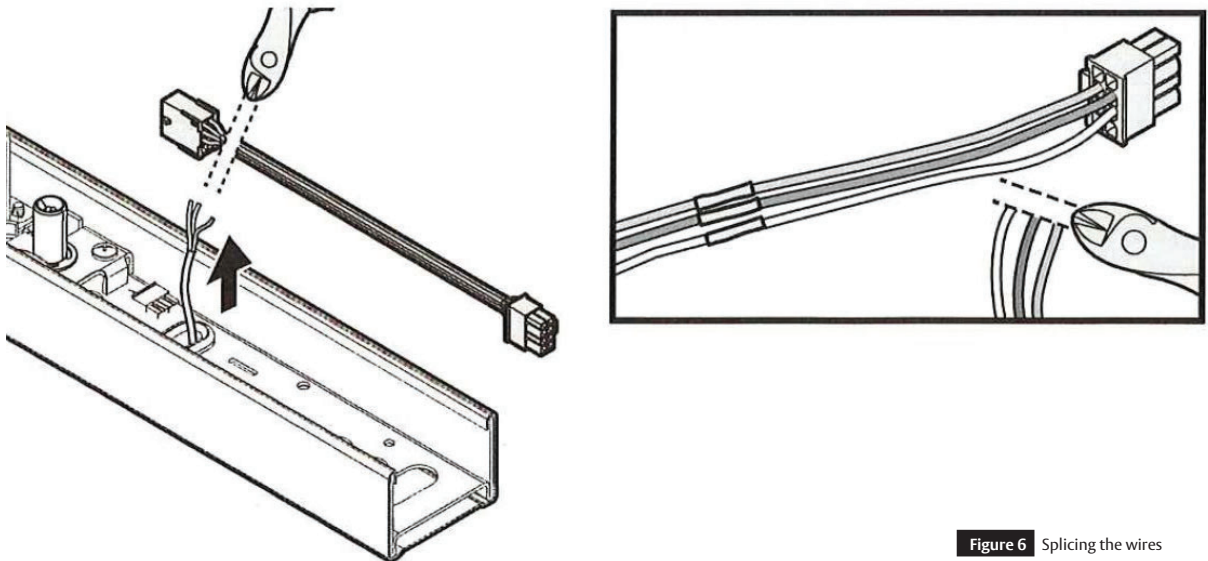

Figure 6 Splicing the wires
- Cut the jumper harness (p/n 727F509 included), leaving enough length to splice the jumper harness to the switch wires and also plug into the motor harness. See Figure 6 on the next page.
- Splice the switch wires to the matching color wires on the jumper harness and secure with the wire nuts provided. See Figure 6:
- Cut the jumper harness (p/n 727509), leaving enough length to splice the jumper harness to the switch wires and also plug into the motor harness. See Figure 6.